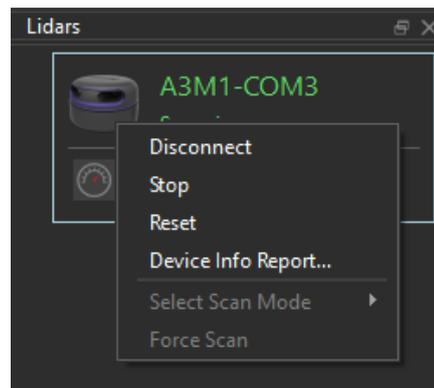

Figure 2.13.10 Context Menu in Scan Mode
2. As shown in Figure 2.13.10, right click the lidar in the **Lidars** panel and choose **Stop** in the context menu.
As shown in Figure 2.13.10, right click a lidar in the **Lidars** panel and choose **Disconnect** in the context menu to disconnect from the lidar.